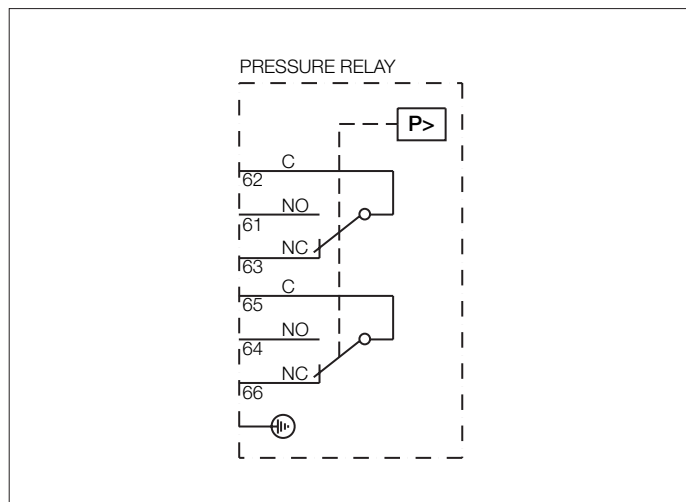
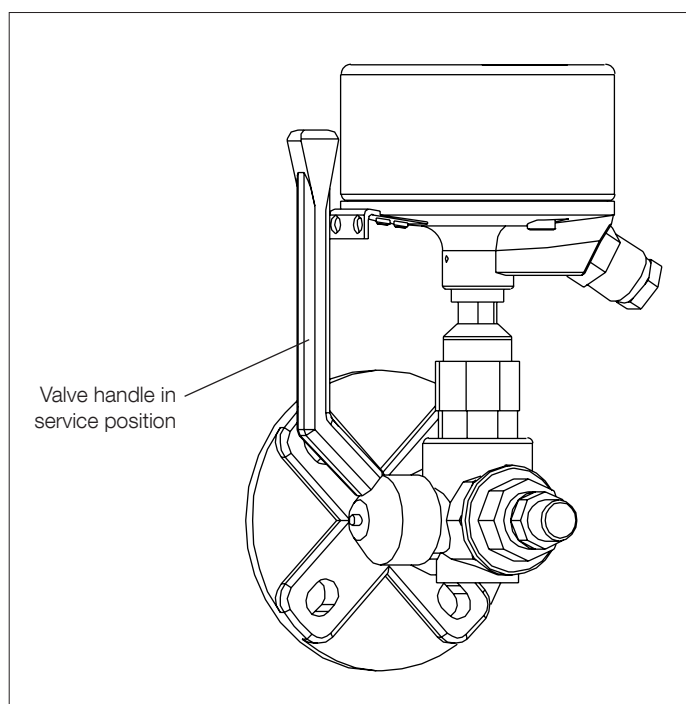

Fig. 12. Terminal output.
Fig. 13.
3. Connect a buzzer to the terminal outputs according to Fig. 12. Test one output at a time.
- output 61 (NO) with 62 (C) carry out point 4 and 5
- output 63 (NC) with 62 (C) carry out point 4 and 5
- output 64 (NO) with 65 (C) carry out point 4 and 5
- output 66 (NC) with 65 (C) carry out point 4 and 5
8. Set the valve handle back to service position. Fig. 13.